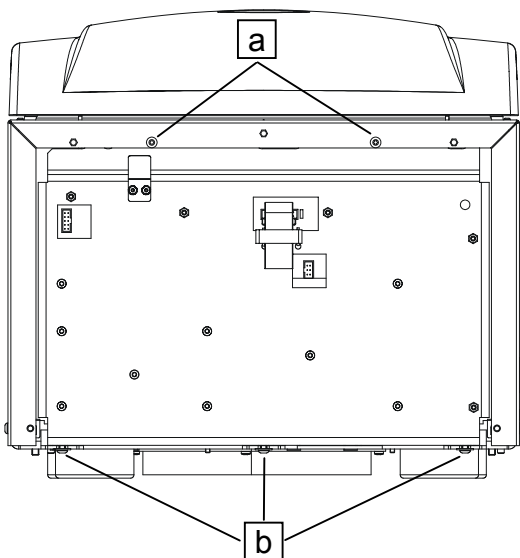
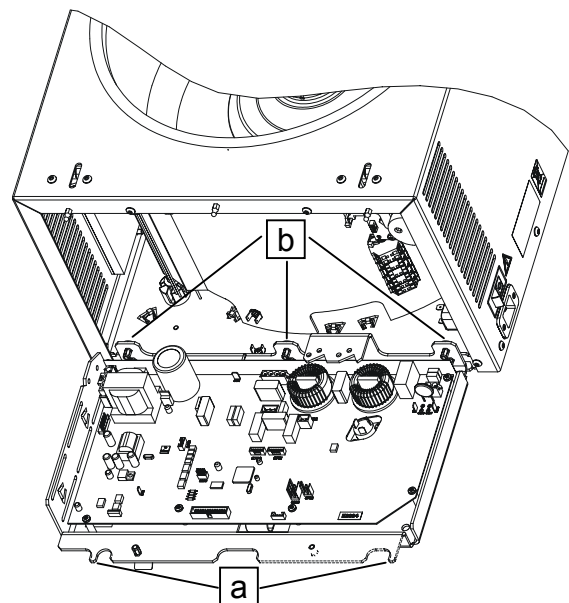
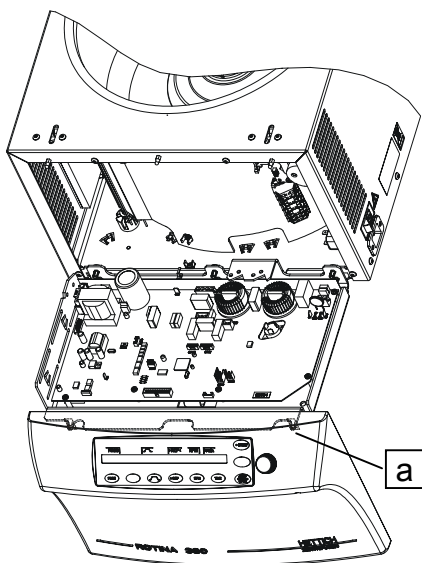

Fig. 12
Fig. 13
Fig. 14
- Unscrew the 2 screws (Fig. 12, a) at the top of the support sheet.
- Loosen the 3 screws (Fig. 12, b) on the lower part of the support sheet by approx. 1 mm.
- Take out the support sheet forward and hook it in horizontally on the centrifuge housing with the screws (Fig. 12, b ; Fig. 13, b), see Fig. 13.
- Hook in the front panel with the left and right spring clip (Fig. 14, a) on the two supporting devices (pg. 81, Fig. 13, a) at the support sheet for electronics (A1), see Fig. 14.